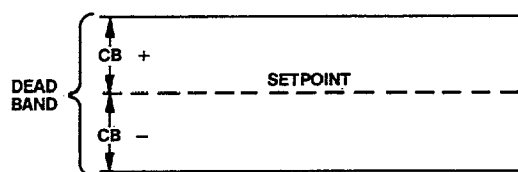

Figure 8
(Figure 8) When the error temperature (T_e) is greater than the value of the control band (CB), an add one stage command is generated.